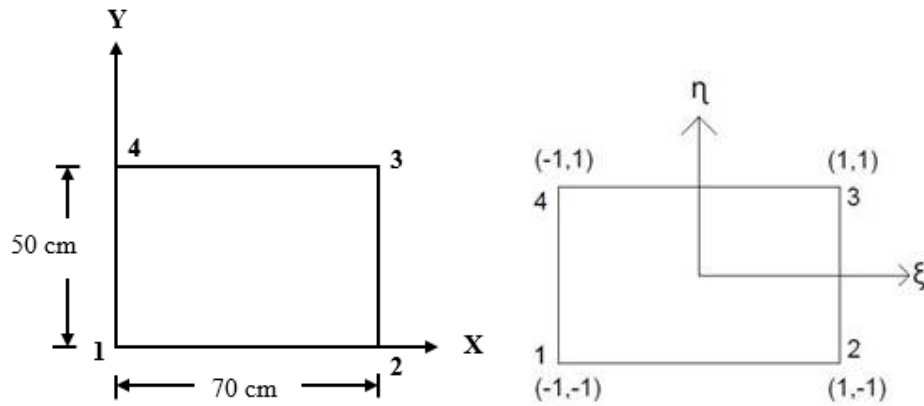

Figure: 2
- (iii) Assemble Jacobian matrix corresponding to the Gauss point (0, 0) for the element shown in **Figure 2**.